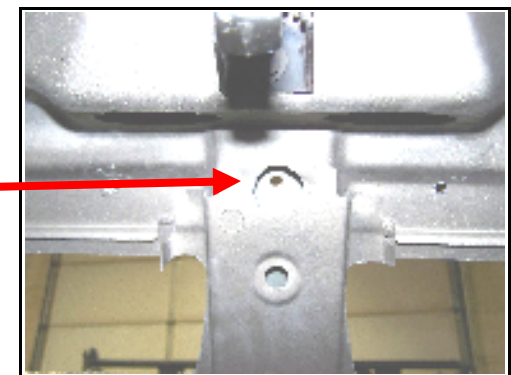

Figure 3
Step 7 - Continue to drill the rest of the holes with the 1/4" Bit, 32 Holes Total. ****NOTE**** You will need to use the 1" hole saw to expand the center bottom hole under the hood in the support section in order to attach the nut to stud. See (Figure 3)